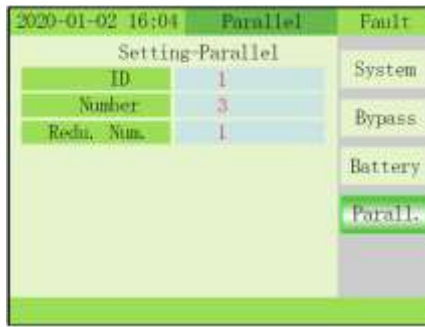

Fig. 4-15 **Setting/Maintenance - Parallel menu**
13) MAINTENANCE – PARALLEL: This item can be selected after the work mode is set to parallel. Press OFF key to enter item and confirm value, press ↻ change value (Fig. 4-15).